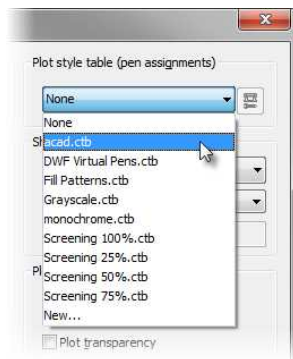

FIGURE 15.18: Assigning a color-dependent plot style to the drawing
2. Expand the dialog box if necessary, and choose `acad.ctb` from the Plot Style Table drop-down list in the top-right corner (see Figure 15.18)